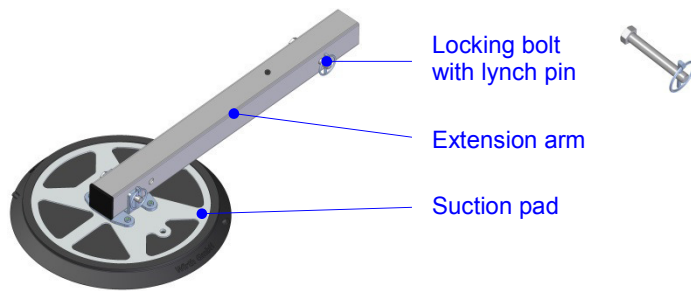

Fig. 11: Extension arm with suction pad
- Remove the lynch pin and the locking bolt (see fig. 11),